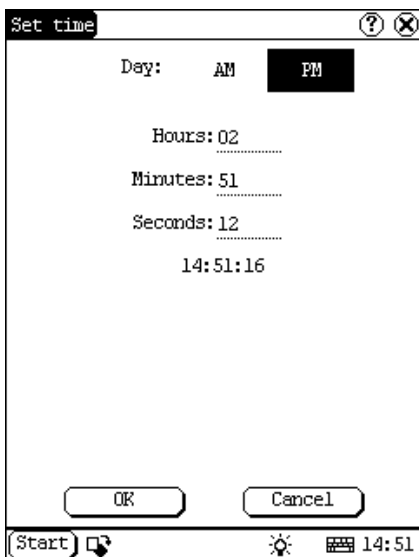

Figure 5-38
- 2) In the Date/Time interface, click [Set Time] button to open the Set Time interface as shown in Figure 5-38.